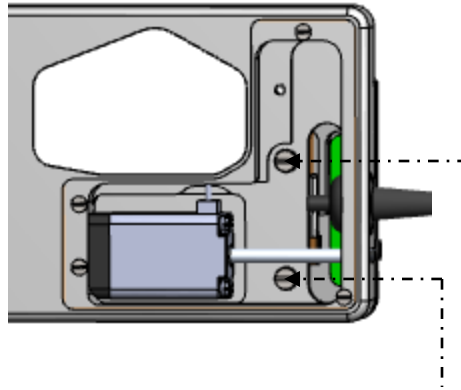

Figure 4.4 - The screws that secure the transducer housing to the chamber
5. Remove the two transducer screws that hold the transducer housing, see figure 4.4.